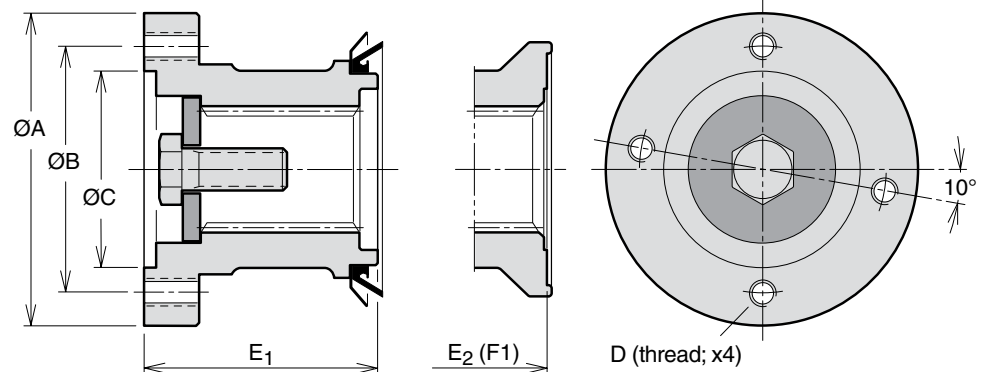

Fig. 3. SAE 88 (370 4628) (378 0644)
Designation	SAE88 (fig. 3)
### 2. Series F1 (right illustration, fig. 3)
- Install hose kit 378 1085 between the lowest drain port on one of the pumps (see fig. 3) and the BPV-F1-25 and -81 bypass valves.